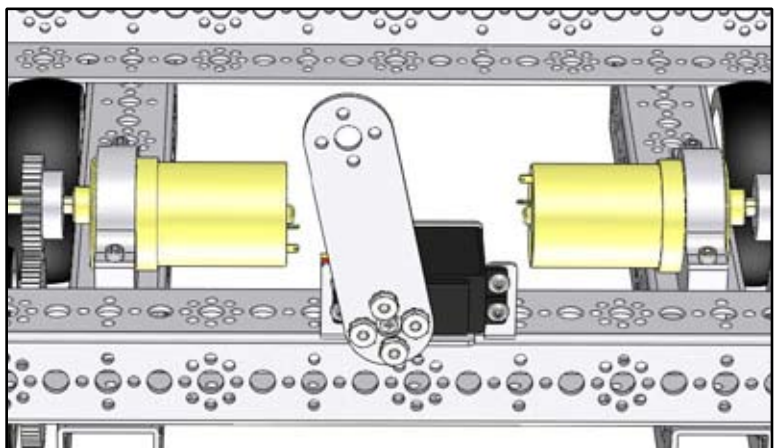

Figure B3
- 3) At this point, it is possible to attach other pieces – such as channels, angles, and flat bars – directly to the servo horn (Figure B3). However, using a pivot bracket will make a stronger pivot (see section below).